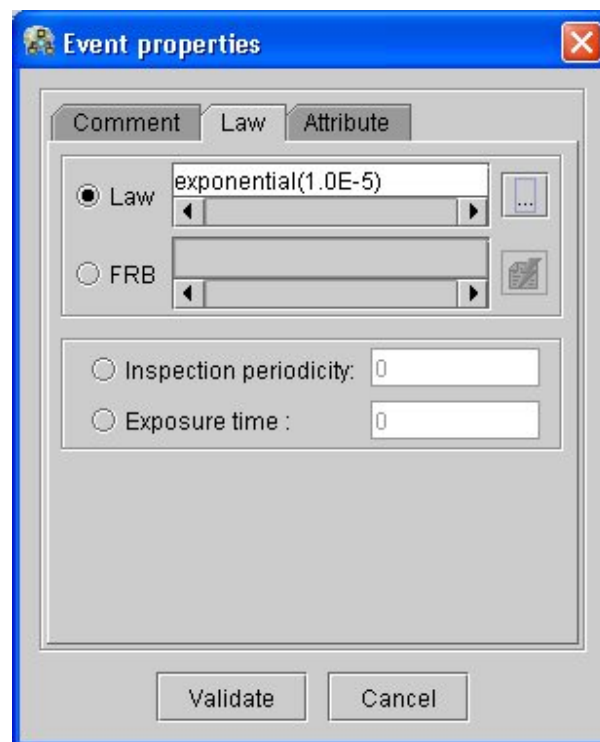

Figure 55 : Event properties
- Click on the icon  to edit the properties of the selected event (Figure 55).